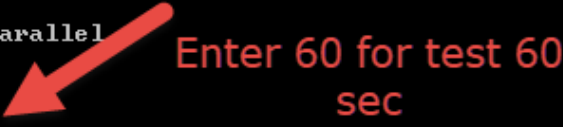

Figure 4-4 Choose test duration
9. Then enter how many seconds you want to test the transmission (See Figure 4-4). For example, enter “60” for test 60 second.